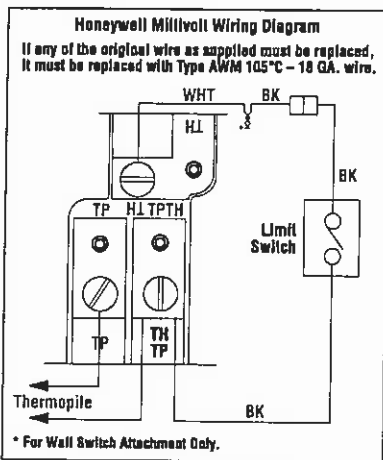
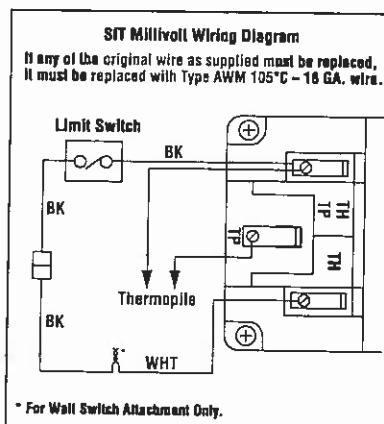

Figure 12
Figure 13
**A. Millivolt Wiring** – Units may be fitted at the factory with either a Honeywell millivolt gas control valve or an SIT millivolt gas control valve. Both valves have been tested with and approved for use with these appliances and are listed accordingly. Refer to *Figure 12* for wiring of Honeywell systems and *Figure 13* for wiring of SIT systems.
The gas valve has been set in place and has been pre-wired at the factory. No additional wiring is required unless the optional wall switch or optional remote control kit is to be installed. Locate the optional wall switch or optional remote control in the desired location and connect the millivolt wire (see *Figures 12 and 13*).